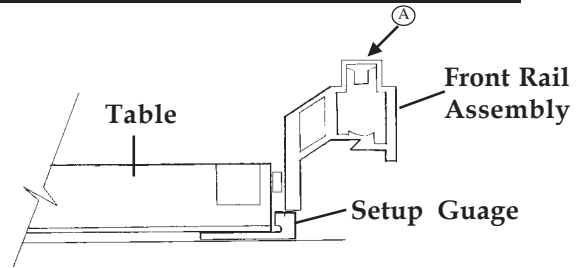
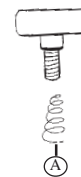

Figure A-1
Figure A-2
3. With your table upside down on a flat smooth surface, slide the setup gauge (25) under the front edge of the saw table near the table's center, the thick part should stick out from under the front and up toward the underside of the table (See Figure A-1).
4. Slide a lock washer (115546) over the button head screw (516027). Insert the screw and washer through the counter bored hole in the front extrusion (521601) of the main saw table, sliding it through the spacer (24) and into the tube mounting hole. Using a 5/32" Allen wrench finger tighten this machine screw.
5. Insert the flat head screws (23) through the front rail assembly (17) from the front, slide the spacer (24) on the screw and slide the screws through the tube mounting holes in the table.
5. Slide the small diameter end of the spring (22) over the knob (21) (See Figure A-2). Thread the knob with the spring into the threaded inserts near each end of the rail assembly (Marked A in Figure A-1).
6. Repeat steps 2, 3, 4, and 5 for the rear rail assembly (19) on the main saw table.